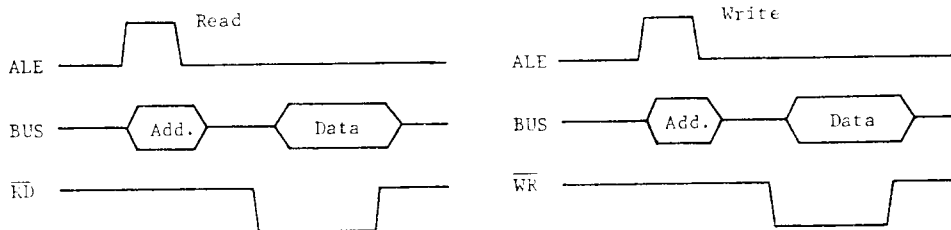

Fig. 6 Timing of Accessing External Data Memory
- . Figure 6 illustrates the timing of accessing the external data memory during execution of external program.
(3) Interface with I/O Expander (TMP8243P)